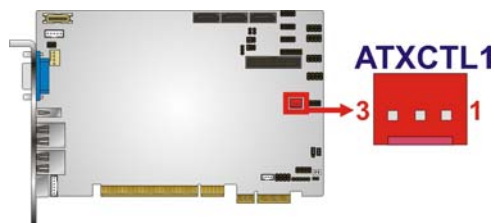

Figure 3-3: ATX Power Supply Enable Connector Location
- CN Location:** See Figure 3-3